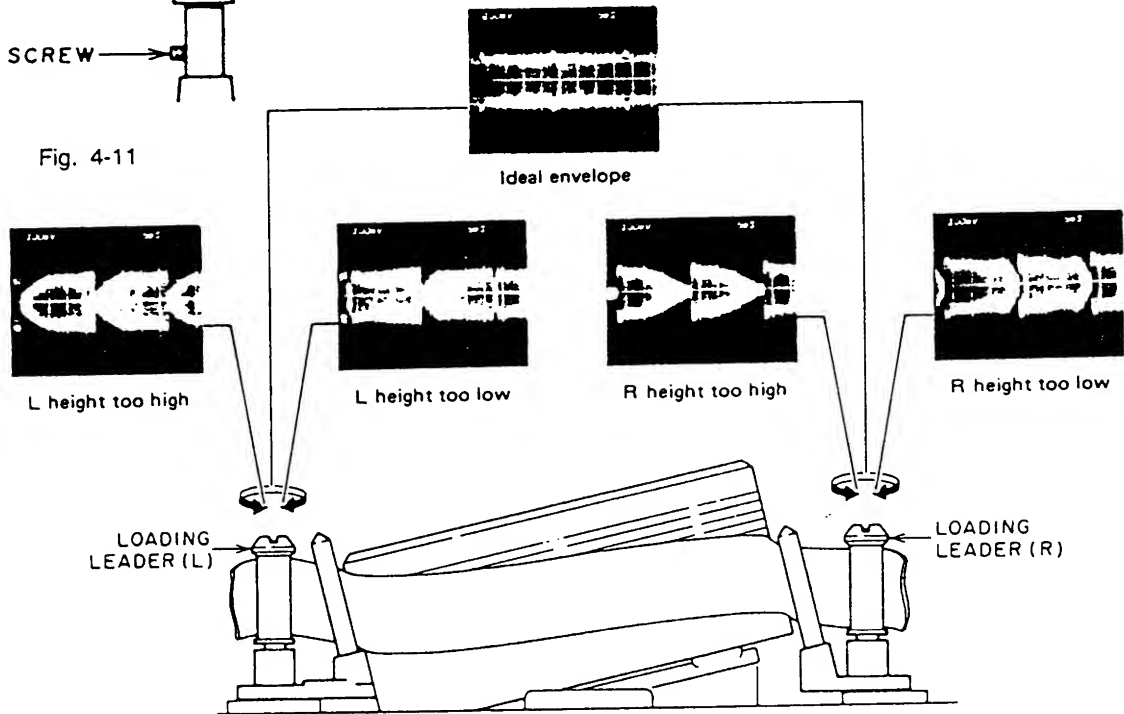

Fig. 4-12
- 3) Connect an oscilloscope's CH-1 to the TR510 emitter (ENVE) on the MAIN (A) PCB and CH-2 to the TP1 (VSWP) on the PRE AMP PCB for triggering.
- 4) Turn the LOADING LEADER heads with a flat head (—) screwdriver to obtain flat RF envelope as ideal envelope as shown in Fig.4-12.